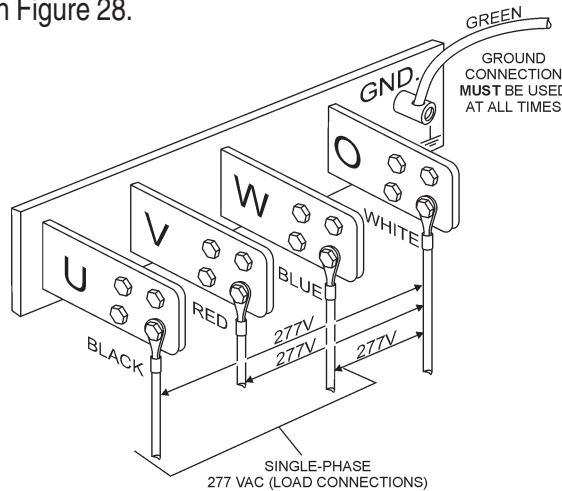

Figure 28. UVW Terminal Lugs 1Ø-277V Connections
2. Connect the load wires to the UVW terminals as shown in Figure 28.